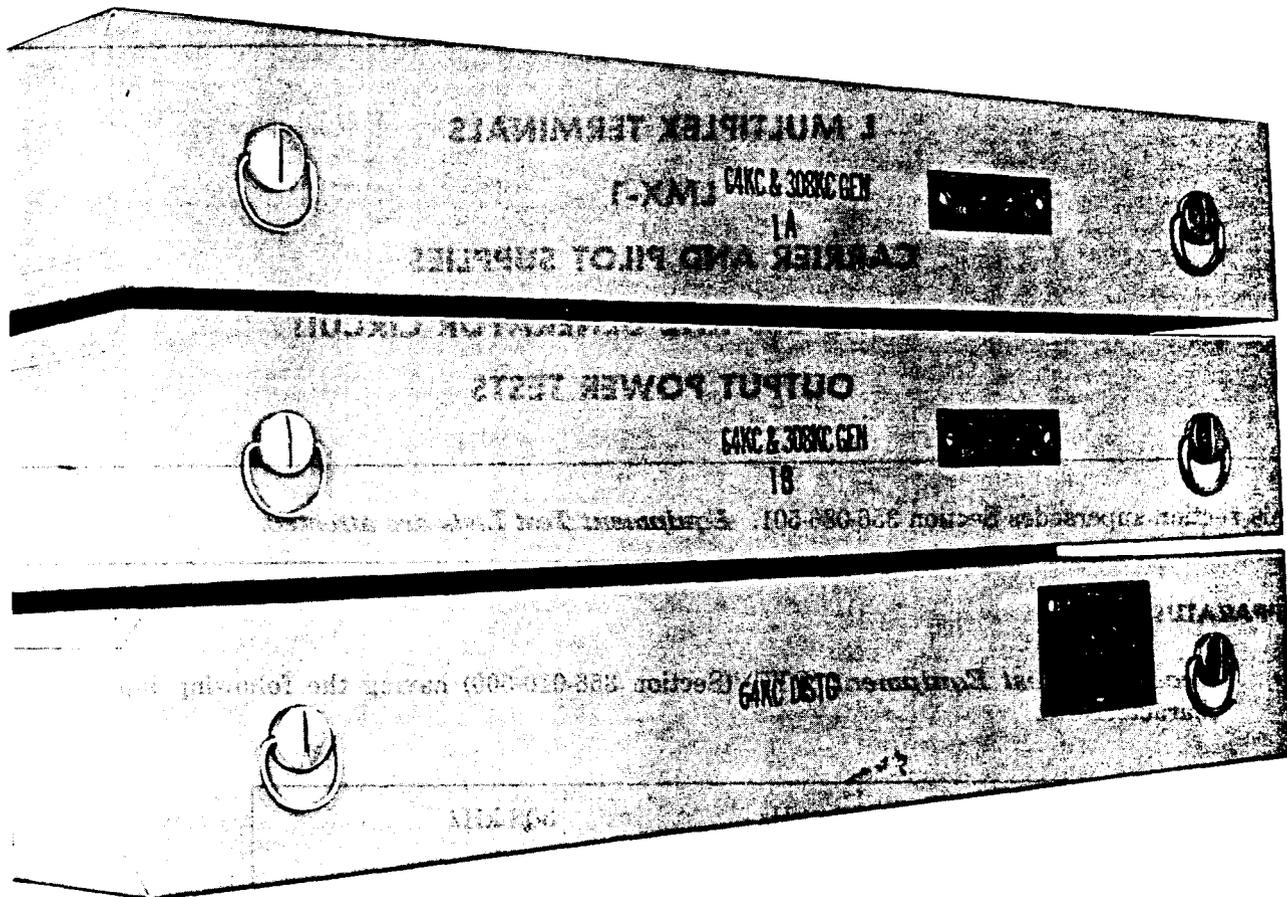
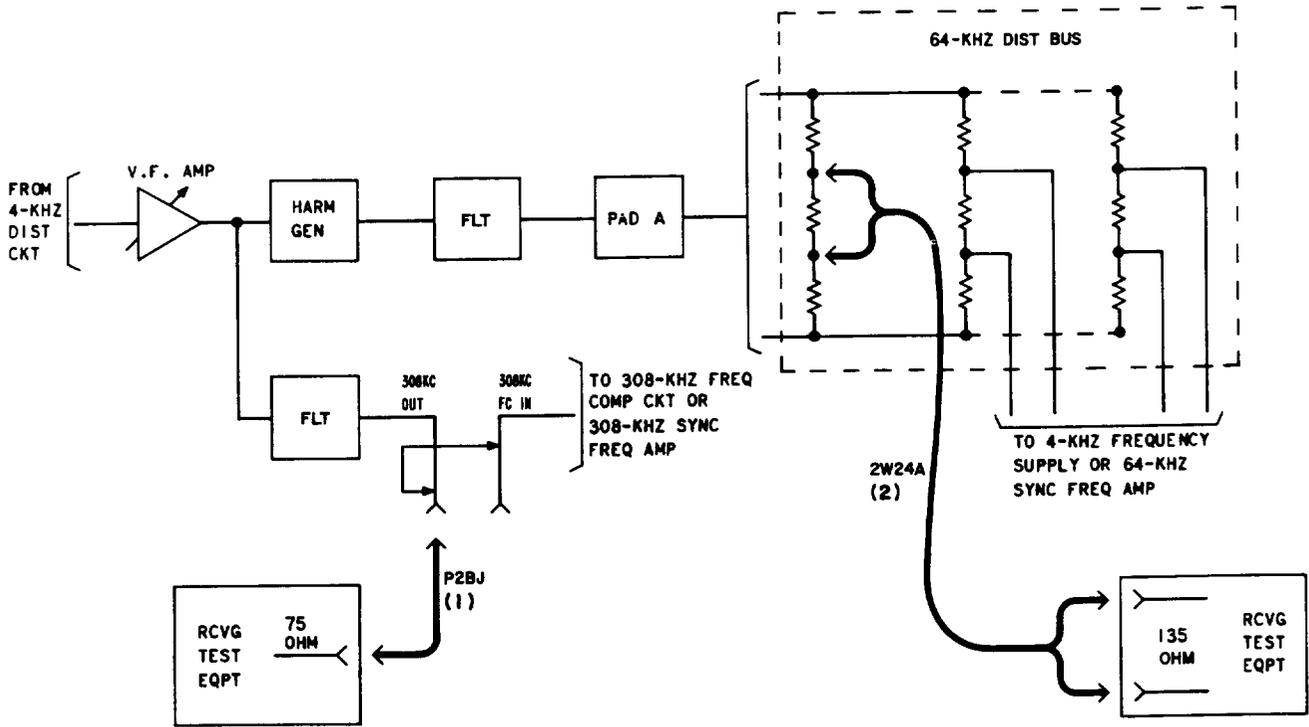

Fig. 1—64-kHz and 308-kHz Generator Unit
Fig. 2—64-kHz and 308-kHz Generator Circuit—
2	On the generator under test (Fig. 1), connect the RTE to the 308 KC OUT jack [patch (1), Fig. 2].
5	Remove patch (1), Fig. 2.
8	At the 64-kHz distributing bus, connect the RTE to an unused bus tap [patch (2), Fig. 2].
11	Remove patch (2), Fig. 2.